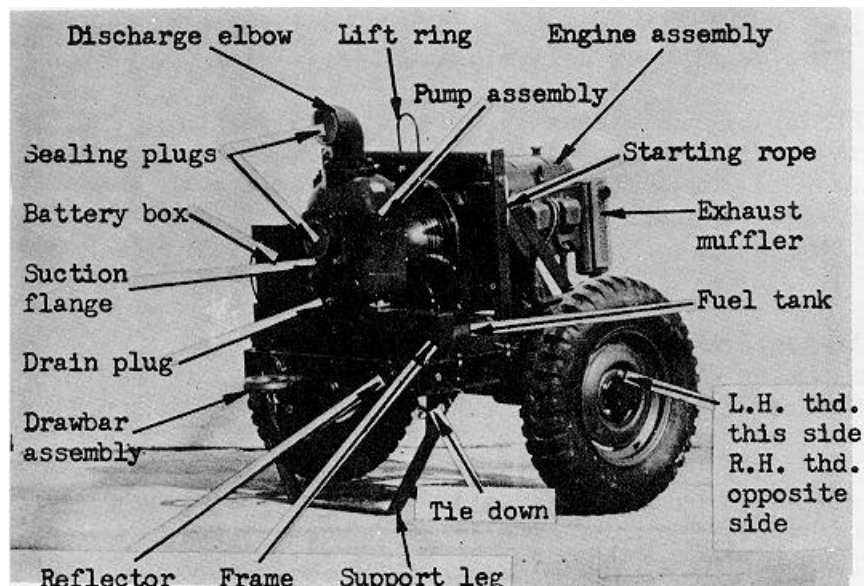

FIGURE 1-1. PUMPING, ASSEMBLY, LEFT REAR 3/4 VIEW
A. GENERAL - The SCHLEYER pumping assembly, Model No. 36M-SPS3011G-T (Fig. 1-1 and 1-2) is a self-contained, trailer mounted, self-priming unit. This pumping unit is for pumping water, with performances in the range as shown on the plate atop the battery box. The unit has 4" NPT inlet and 4" NPT outlet with a rated capacity of 600 GPM at 50 ft TDH. The unit is powered by a four-cylinder gasoline engine directly coupled to the pumping assembly. Instruments and controls necessary for operation of the unit are mounted on the control panel (Fig. 2-2).
C. PUMP ASSEMBLY - The pump assembly (Fig. 1-1) is a four inch conventional type self-priming centrifugal pump designed to deliver 600 GPM at 50 ft. TDH.
D. TRAILER - The trailer (Fig. 1-1) is constructed of welded steel members and is equipped with two wheels with pneumatic tires and an axle for towing at speeds up to 30 MLPH on surfaced roads. A collapsible support leg (fig. 1-1) is provided at rear of the trailer to support the unit during operation. The trailer is equipped with a removable drawbar for towing.